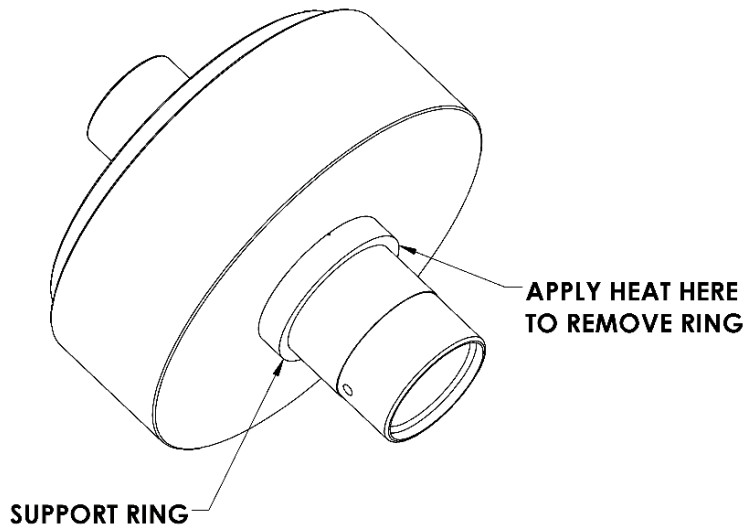

Figure 21 Using a Propane Torch to Remove the Support Ring
5. **Perform** this 5th step **ONLY IF** the support ring does not pass inspection or has reached its recommended replacement time. A small amount of the short seal ring may have extruded under the short support ring, adhering it to the check valve body stem. To **remove** the short support ring from the check valve body stem (*see **Figure 21** on next page*), **use** a propane torch to **slightly heat** around the diameter of the ring for 20-30 seconds. This softens the plastic between the check valve body stem and the short support ring, allowing you to **remove** it by hand **using** a rag or pair of channel lock pliers.